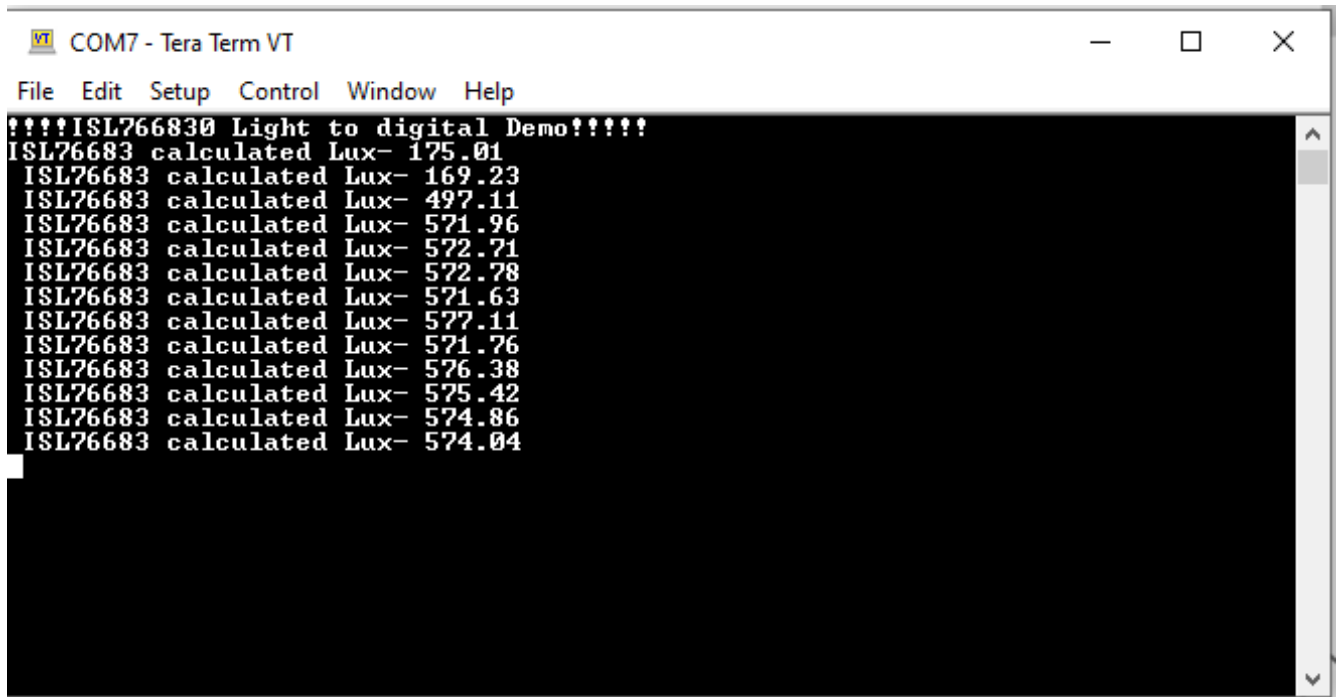

Figure 6. Serial Data Output Window
- 3. After debugging is complete, the lux data can be viewed from the Tera Term VT software window (see Figure 6).